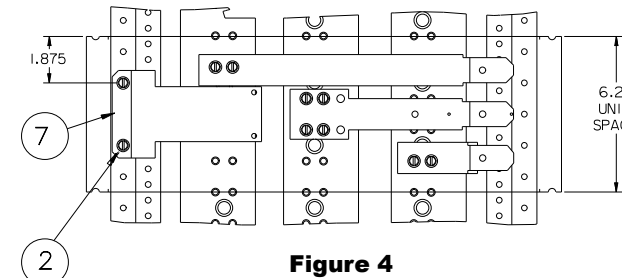

Figure 4
6. Reference fig. 4 - Installing the breaker mount. Locate one 0.228" hole on the Z-rail 1-7/8" down from the top of the 6-1/4" of unit space selected. Orient the breaker mount (item 7) as shown in fig. 4. Insert one 1/4-20 X 1/2" screw (item 2) through the hole in the breaker mount and then into the 0.228" hole in the Z-rail and tighten securely. Insert another 1/4-20 X 1/2" (item 2) screw through the second 0.312" diameter hole in the mounting bracket and then into the 0.228" diameter hole in the Z-rail and tighten securely.